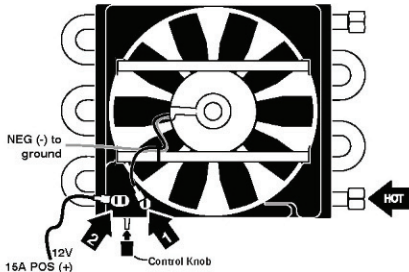

FIGURE 4: 4595_ wiring only
8) Plug the BLACK (+) motor lead into the single connector at arrow 1 on FIG. 4. Run another wire from an ignition switched 15A POS (+) power source to either of the two connectors at arrow 2. Connect the RED (-) lead to ground. An electrical relay and a 15A slow-blow fuse are recommended on the POS (+) side. Press control knob in place. When finished, reconnect battery.